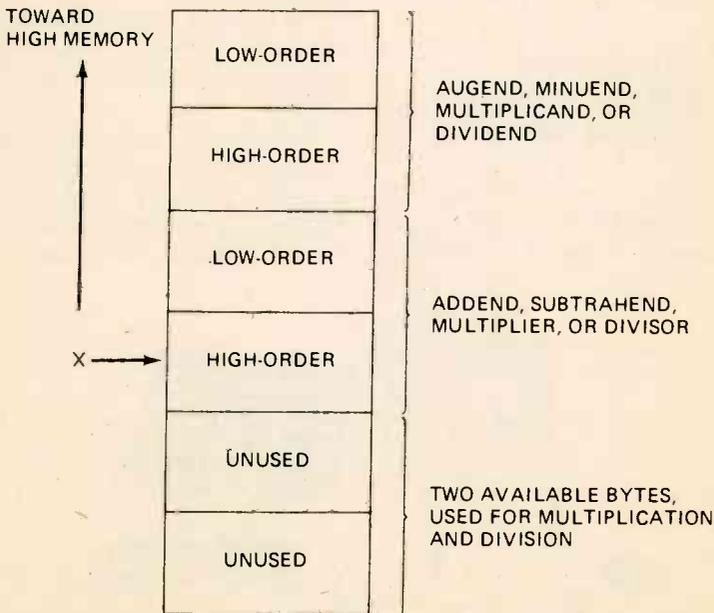

FIGURE 3. THE REQUIRED OPERAND FORMAT FOR THE DOUBLE-PRECISION ARITHMETIC PACKAGE.
the order in which the operands appear must be as shown in Fig.3. Furthermore, the index register (X) must contain the address of the high-order byte of the second operand. Then the low-order byte will appear at 1,X. The first operand will be located at 2,X and 3,X. This permits indexed addressing to be used throughout all operations, so that the arithmetic routines do not need to contain specific operand addresses.
The order in which the operands appear is unimportant for addition and multiplication. During subtraction and division, however, it is extremely important that the operands be in the correct sequence. In order to be sure that this requirement is met, it is best to maintain this sequence for all operations. Therefore, when using these routines, make sure that the X register points to the high-order byte of the addend, subtrahend, multiplier, or divisor, as shown in Fig.3. Then the augend,
The double-precision subtraction routine, DPSUBX, is the same as DPADDX except that in this routine, the subtrahend is subtracted from the minuend instead of being added. For this reason, it is essential that the operands appear in the order indicated in Fig.3. When the subtraction process is completed, the difference will have replaced the minuend.